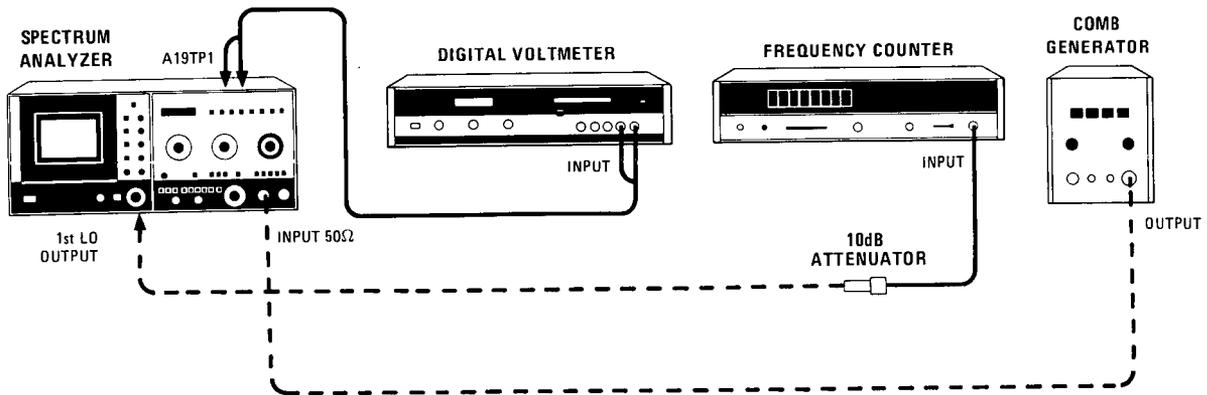

Figure 5-31. YIG Driver Adjustment Test Setup
- b. Reconnect power cord, set LINE switch ON, connect equipment as shown in Figure 5-31, and set 8565A controls as follows: